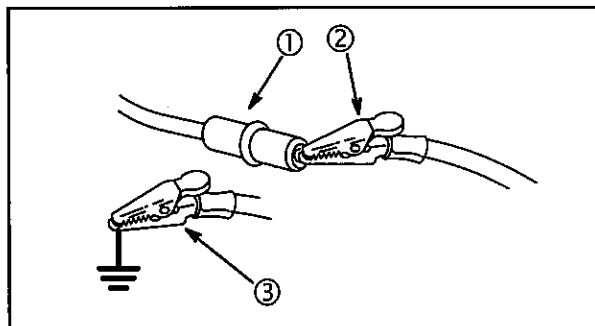

Fig. 54
3. With engine running at top governed speed, attach one end of a jumper (2) wire to BLUE wire from control module (1). Attach the other end of the jumper wire (3) to a good ground, **Fig. 54**. After 4 – 6 seconds engine speed should return to idle (approximately 1750 RPM).